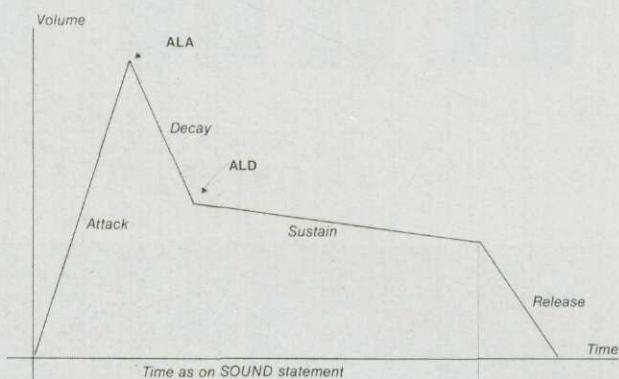
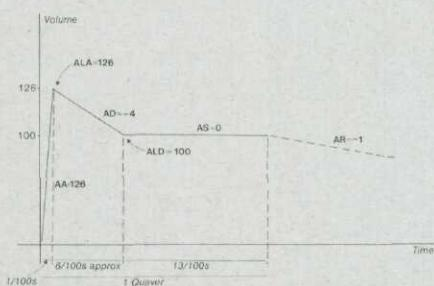

Figure 4. Amplitude waveform common to ENVELOPE statement.
Figure 5. Percussive amplitude envelope given by ENVELOPE 1, 0, 0, 0, 0, 0, 0, 126, -4, 0, -1, 126, 100.
Look at figure 4. This is an amplitude waveform common to the BBC ENVELOPE statement. It consists of 4 ranges marked attack (AA), decay (AD), sustain (AS), and release (AR), as well as two set points (ALA) -volume after attack ramp and ALD,-volume after decay ramp. The volume levels ALA and ALD are numbers between 0 and 126. To produce a useful envelope consideration has to be given to the type of instrument to be imitated. Look at figure 5 which is the amplitude envelope of a percussive piano-like instrument. Note the steep gradient of the attack ramp - giving the note bite, and the gentler slope of the decay, sustain, and release ramps, giving the fading sound of a piano note. The command to produce this is: